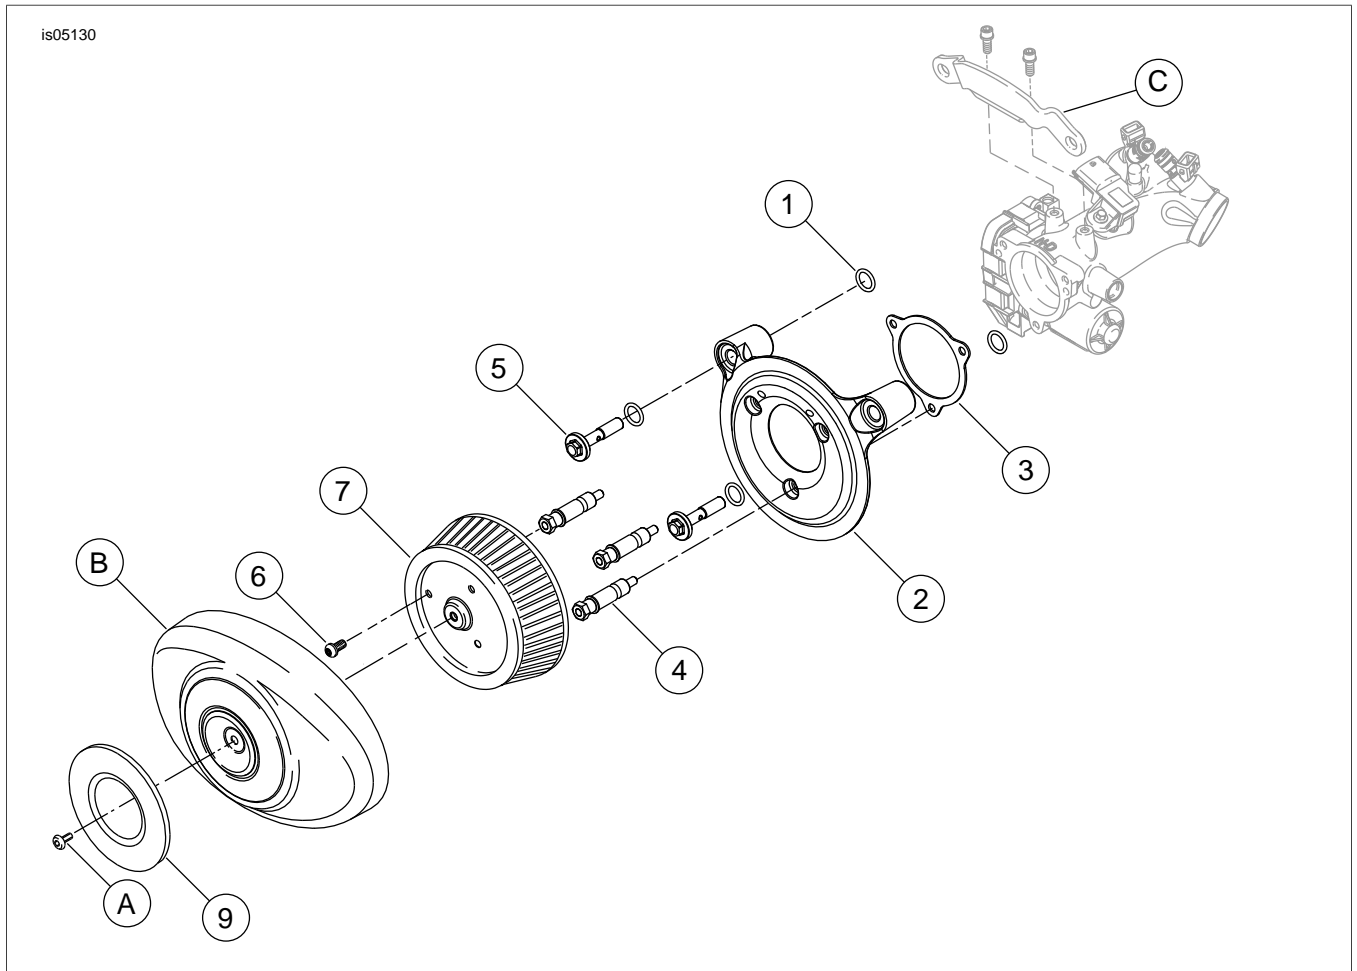

Figure 1. Service Parts: Screamin' Eagle Stage 1 Kit
See Figure 1 and Table 1.
4. See Figure 1 and Table 1. Remove and discard support induction module bracket (C).
1. See Figure 1. Install two O-rings (1) from kit in grooves around breather screw holes on induction module side of backplate assembly (2). Install two O-rings (1) from kit in grooves in underside of head of breather screws (5).
2. Peel the protective strip off the gasket (3) and place the adhesive side onto the backplate. Align to the equally spaced screw holes, and position the gasket carefully before firmly pressing the gasket into place.
3. Insert new breather bolts (5) through the backplate.
6. Thread air cleaner mounting studs (4) all the way through the backplate (2) until the screw threads are captured in induction module. Do not tighten completely at this time.
7. Alternately tighten two breather bolts (5) to 120-144 **in-lbs** (13.6-16.3 Nm).
8. Tighten three air cleaner studs (4) to 55-60 **in-lbs** (6.2-6.8 Nm).
1. See Figure 1. Secure air filter element (7) to air cleaner mounting studs (4) using screws (6). Tighten screws to 55-60 **in-lbs** (6.2-6.8 Nm).
2. Apply Loctite 243 (blue) to threads of air cleaner cover screw (A). Secure air cleaner cover (B) to air filter element (7) with screw (A).
4. Remove adhesive liner from air cleaner insert (8) and apply insert to air cleaner cover.
1. See Figure 1. Remove air cleaner cover (B) and inspect the filter element (7) every 5000 mi (8000 km), or more often under dusty conditions.